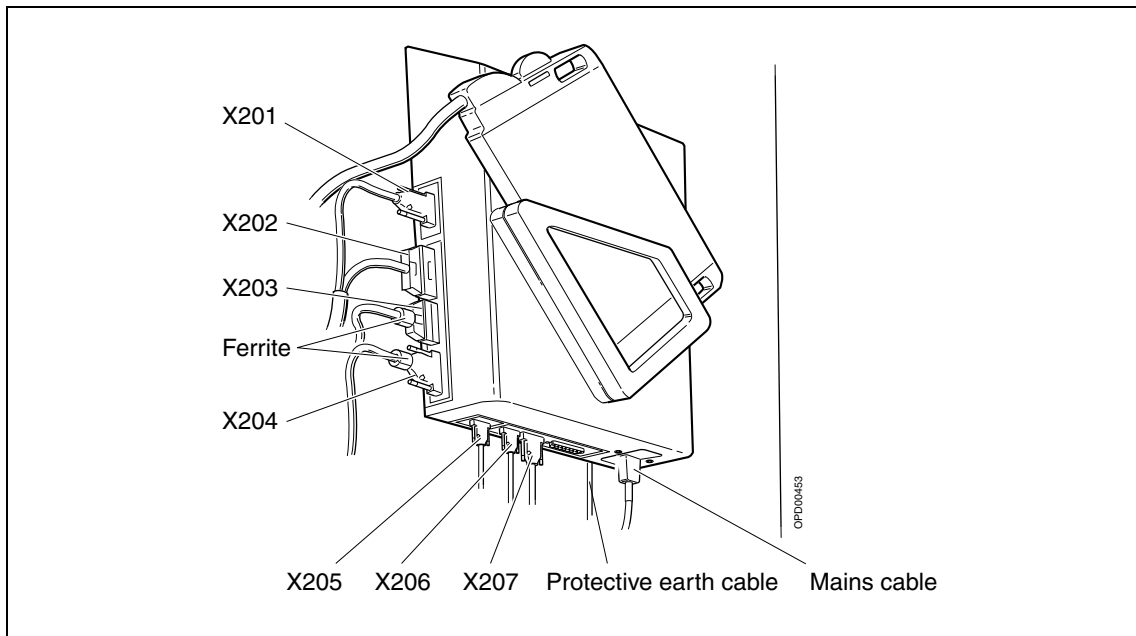

Fig. 2 Connection of cables to the biopsy controller
1. Connect the cable to X201 and X202 on the biopsy controller, see Fig. 2.